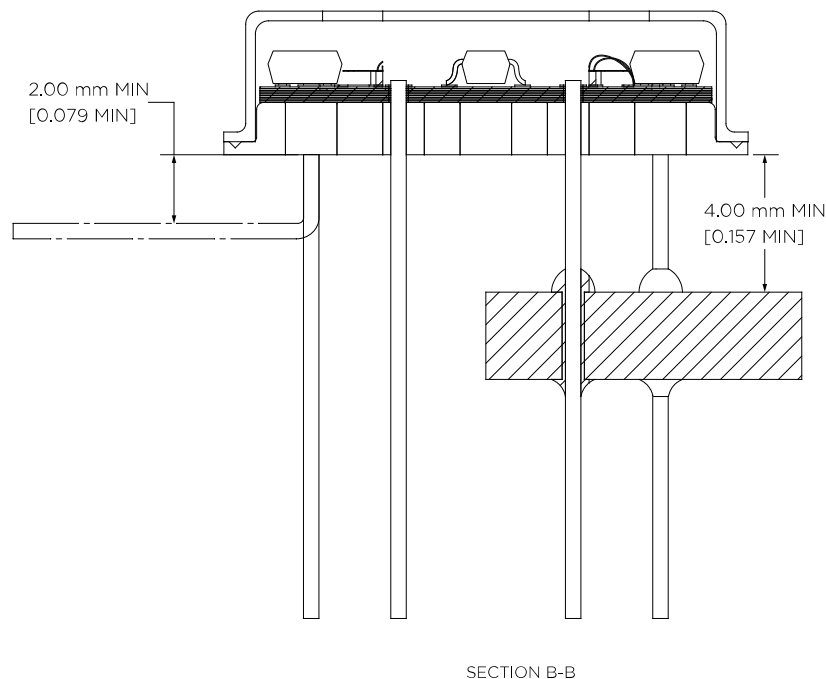

Figure 1
- / Ensure a minimum distance of 4 mm between the bottom of the detector and the detector board (see Figure 1).
- / **DO NOT BEND** leads at sharp angles less than 2 mm from the base of the package, as this may damage the glass feedthrough seals (see Figure 1). No force should be applied to the pins at the glass-to-metal seal.